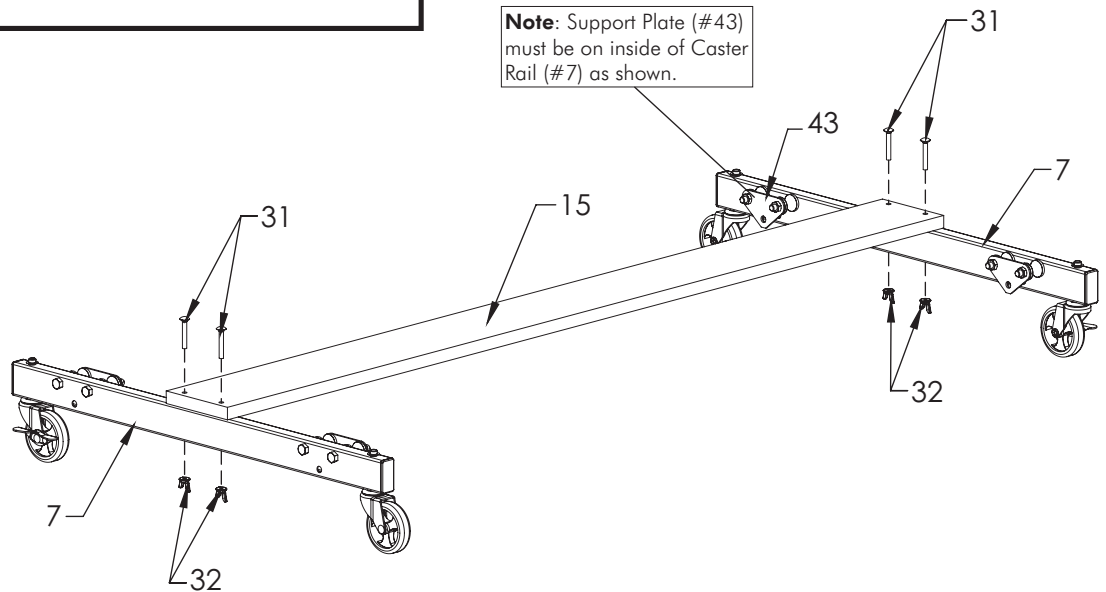

Figure 1
1. Attach Wood Bottom Board (#15) to Caster Beam Assemblies (#7) as shown in **Figure 1**. Turn Caster Beams as shown and attach board with four Carriage Bolts (#31) and four Wing Nuts (#32). Tighten Thumb Screws securely.
2. Loosen Wing Nuts (#32) attached to bolt (#31) in order to create enough slack to align table tops. See Figure 1.